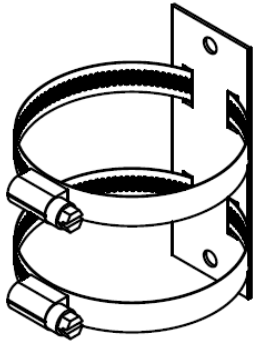
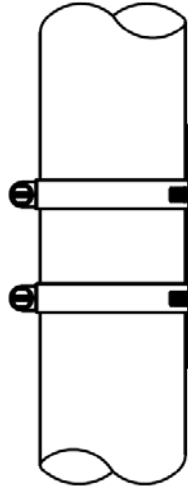
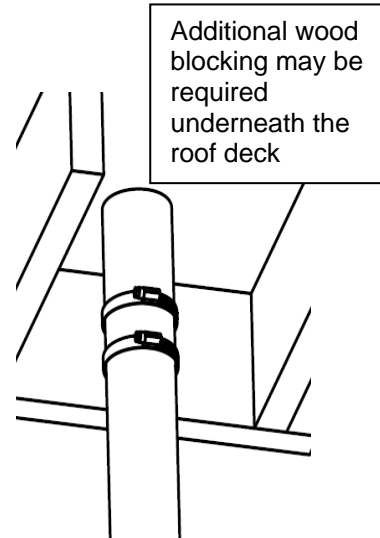

Figure 6
Figure 7
Figure 8
For proper installation, Wall Straps (WS) must be installed to support the Polyflue. Fasten using (2) #8 x 1”L (M4.2 x 25mm) wood screw or equal by others) the zero clearance Wall Strap to wood structure (Fig 6) and insert pipe through the hose clamps and draw tight (Fig 7). Maximum distance between Wall Straps is 16 feet (4.9m). A Wall Strap is also required just below the roof deck for all vertical installations (Fig 8 & vertical termination section). Never drill or screw through the Polyflue system.